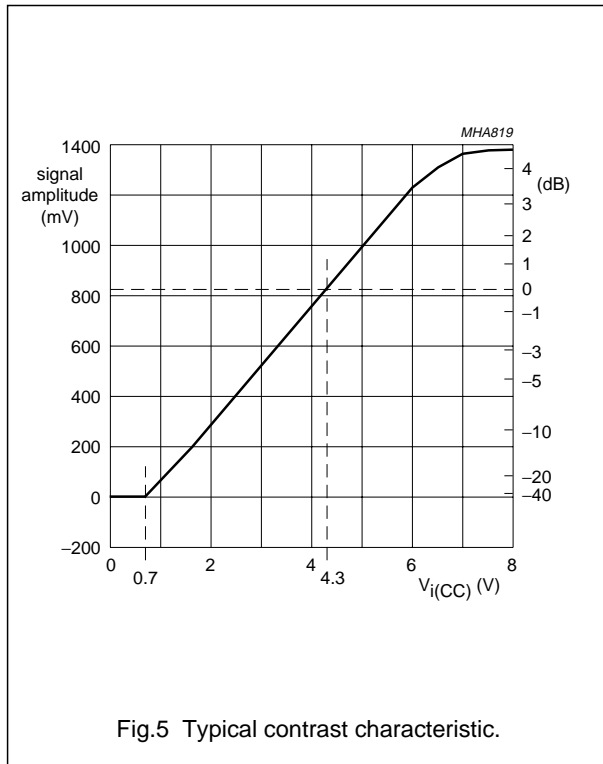

Fig.5 Typical contrast characteristic.
2. Linear control range is 1 to 6 V for  $V_{i(CC)}$ , independent of supply voltage. Open pin 6 leads to absolute maximum contrast setting. It is recommended not to exceed  $V_{i(CC)} = V_P - 1 \text{ V}$  to avoid saturation of internal circuitry. For  $V_{i(CC)} < V_{i(CC)(min)} \approx 0.7 \text{ V}$  a small negative signal ( $\approx -40 \text{ dB}$ ) will appear. For frequency dependency of contrast control see note 14. Typical contrast characteristic see Fig.5.